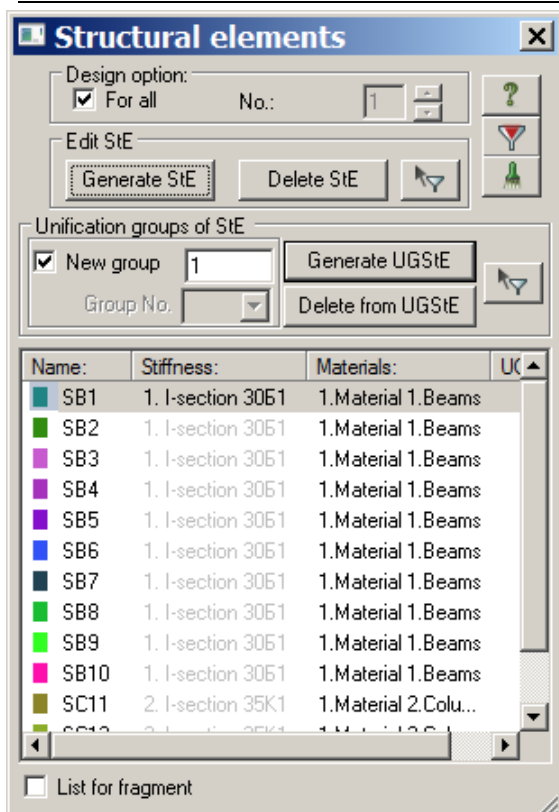

Figure 4.30 Structural elements dialog box
- ⇒ In the **Structural elements** dialog box (see Fig.4.30), under **Design option**, select **For all** check box. Then under **Edit structural elements**, click **Create**.